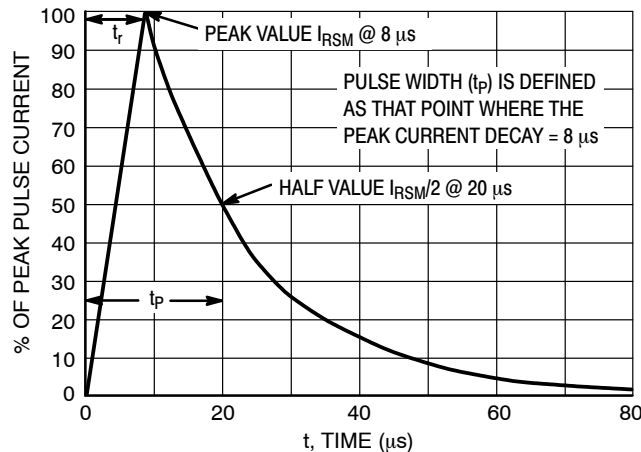

Figure 5. 8 x 20 μ s Pulse Waveform
3. Surge current waveforms per Figure 5.